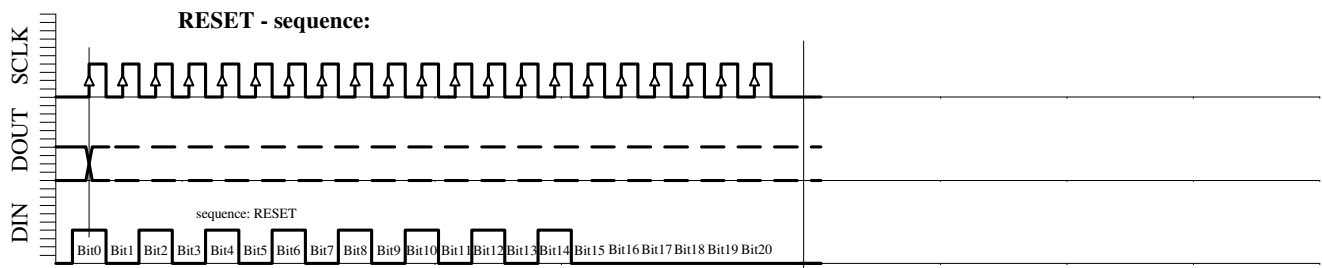

Fig. 6e: RESET sequence (21 bit)
- RESET sequence (Figure 6e)
The RESET sequence is special as the module in any state recognizes its unique pattern. By consequence, it can be used to restart if synchronization between the microcontroller and the MS5541C has been lost. This sequence is 21-bit long. The DOUT signal might change during that sequence (see Fig. 6e). It is recommended to send the RESET sequence before each CONVERSION sequence to avoid hanging up the protocol permanently in case of electrical interference.